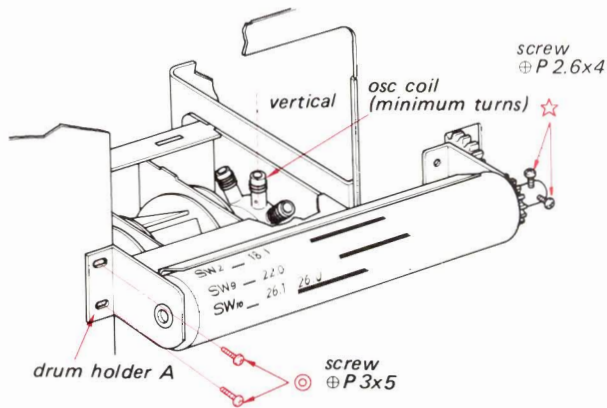

Fig. 2-16
5. Remove the drum holder A by removing the two screws marked ⊙ in Fig. 2-16.
6. Release the two screws marked ☆ in Fig. 2-16.
1. Turn the sw band selector so that the osc coil which has the minimum turns comes to the vertical position as shown in Fig. 2-16.
2. Attach the dial drum to the drum holders setting the two screws marked ⊙ in Fig. 2-16.
5. Fasten the two screws marked ☆ in Fig. 2-16.